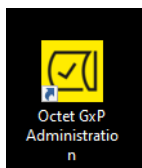

Figure B-6: Octet® GxP Server Administration Shortcut
1. Double-click the desktop short cut (Figure B-6) to launch the Octet® GxP Server Administration tool.